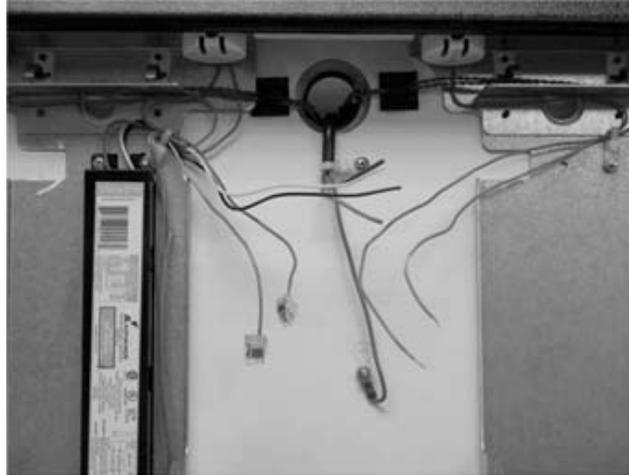

Figure 77.
- A. Locate wires, as shown in Figure 77.